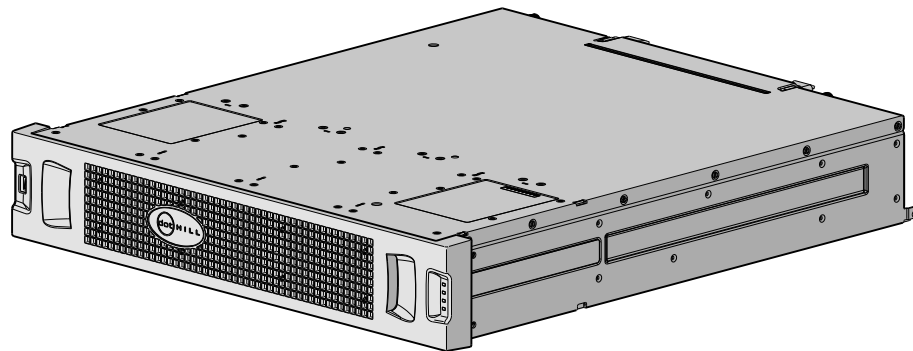

Figure 15 Controller enclosure assembly with bezel installed (reduced-depth 2U12)
- Assembly — Figure 15 on page 25 (shows bezel installed)